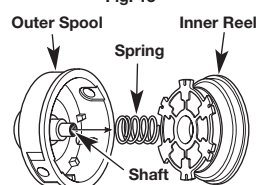

Fig. 14
3. Remove the inner reel from the outer spool (Fig. 14).
4. Remove the spring from the inner reel (Fig. 14).